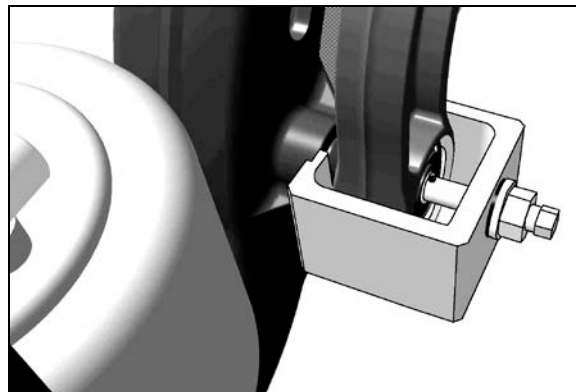

FIGURE 8: INSTALLING EXTRACTOR TOOL
3. Install jacks under tag axle jacking points to support the axle weight (refer to figure 8).